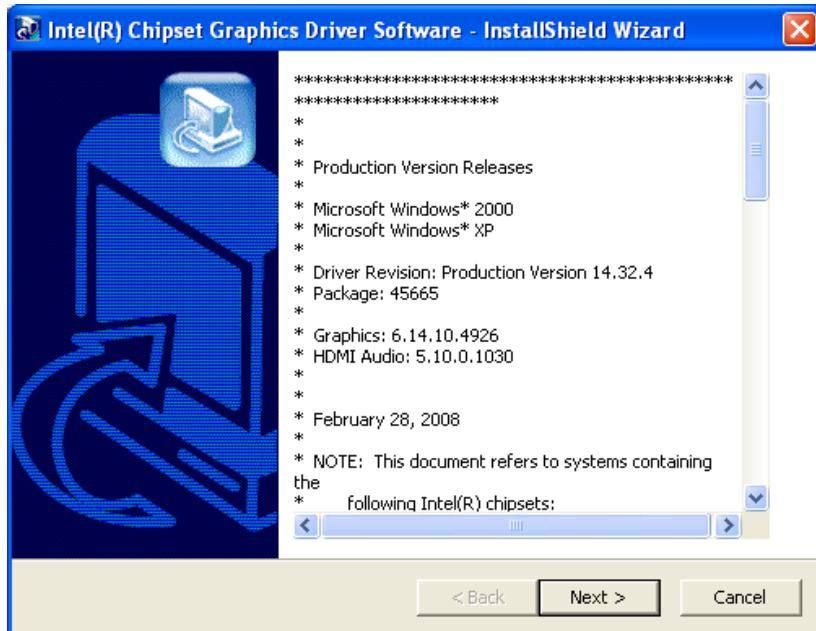

Figure 6-9: VGA Driver Read Me File
**Step 3:** The VGA Read Me file in **Figure 6-9** appears.